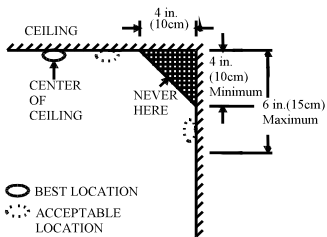
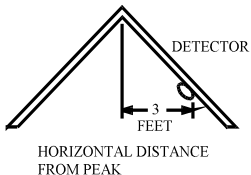

Figure 3: Recommendations for best and acceptable installation locations for installing smoke & heat detectors.
Figure 4: Recommended installation location for smoke & heat detectors in rooms with sloped ceilings or gables (slope >20 degrees).
- Install smoke & heat detectors as close as possible to the center of the ceiling. If it is not practical, install the detector no closer than 10cm to walls or corners (see *Figure 3*).
- If installing on the ceiling is not possible and state and local authorities allow the installation of the detectors on walls, assemble them on walls at a distance of 10cm – 15cm from the ceiling (see *Figure 3*).
- If your home has a sloped ceiling or gables, try to install the detectors 90cm from the highest point of the ceiling, measuring horizontally (see *Figure 4*).
- In areas with still air, such as under pointed roofs or in corners between walls and ceiling. Still air can prevent smoke from reaching the detector (*see Figure 3 and Figure 4 for recommended installation locations*).